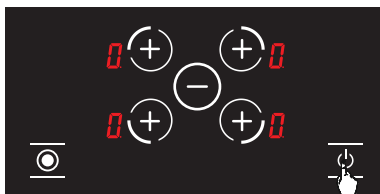

Figure 11
1. Switch on the hob by pressing the button: **⏻**. (See Fig. 11.)